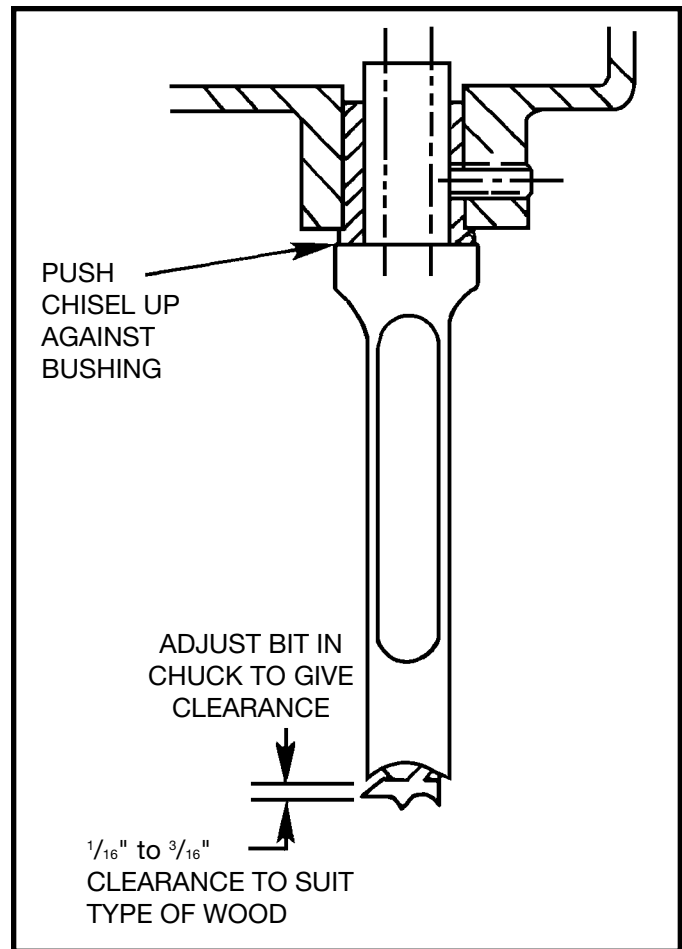

Fig. 15
5. The flat portion of the bit should be adjusted to a minimum of 1/16" below the bottom of the chisel, as shown in Fig. 15. For certain types of wood it may be necessary to increase this distance up to a maximum of 3/16" clearance. This method assures having proper clearance between the cutting edges of the bit and the points of the chisel.